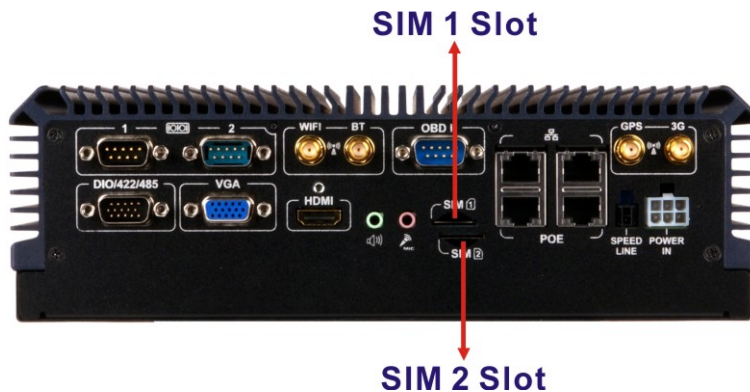

Figure 3-14: SIM Card Slot Locations
Step 2: Locate the SIM card slots on the rear panel (Figure 3-14).